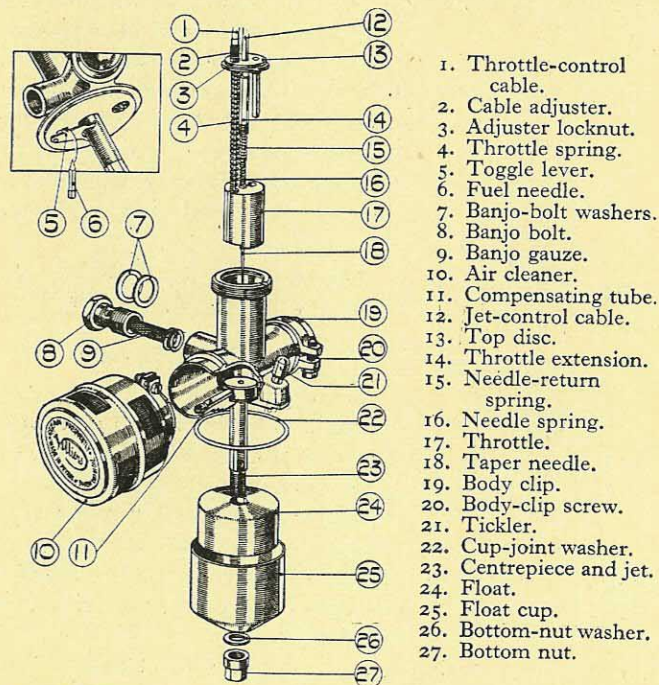

FIG. 86.—EXPLODED VIEW OF TYPE 4/5 CARBURETTER FITTED TO MARK 6E UNIT.
The Villiers type 4/5 carburetter is fitted to the Mark 6E engine. The construction is clearly shown in the exploded and sectional drawings, Figs. 86 and 87. The operation of the
hexagon extension (14, Fig. 86) from the throttle (17). Before the centrepiece (23) can be removed, the compensating tube (11) has to be unscrewed. This is situated inside the air intake, and the slotted end can be seen after removal of the air filter. The special circlip which fits in a groove in the tube should always be in position to prevent possible entry into the cylinder should the tube become unscrewed. Further dismantling and reassembly of the carburetter can be carried out by following the instructions given in the previous chapter dealing with the Mark 10D carburetter.